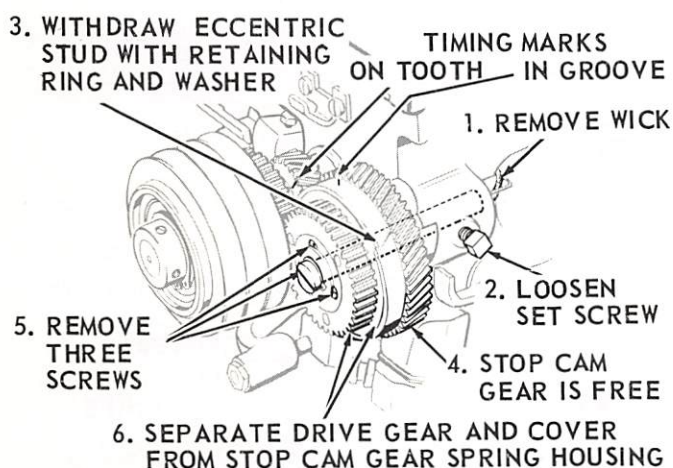

Fig. 49. Removal of Stop Cam Gear Spring
If stop cam gear spring (enclosed in stop cam gear) breaks, it can be removed and a new spring inserted, as follows (see Figs. 49 and 50).
1. Remove wick, shown in Fig. 49, from eccentric stud.
4. Catch stop cam gear, shown in Fig. 49, as it falls from machine.
5. Remove the three screws shown in Fig. 49 from gear assembly.
- Replace positive drive gear and cover on housing and fasten securely with 3 screws, as shown in Fig. 49.
- Replace eccentric stud, washer and retaining ring, as shown in Fig. 49.